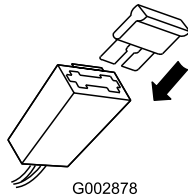

Figure 6
2. Insert the fuse into the fuse holder (Figure 6).